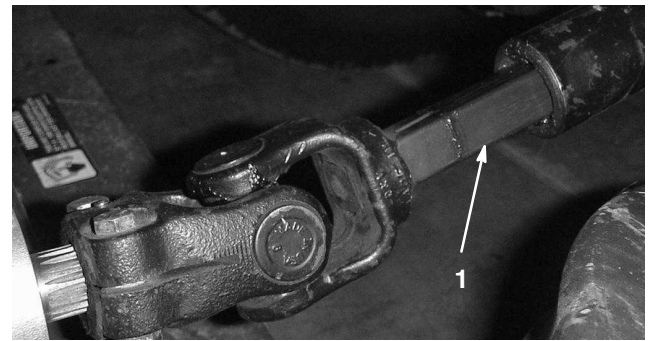

Figure 22
5. Stop the engine and slide the cutting unit away from the traction unit and carrier frame, separating the male and female sections of the PTO shaft (Fig. 22).